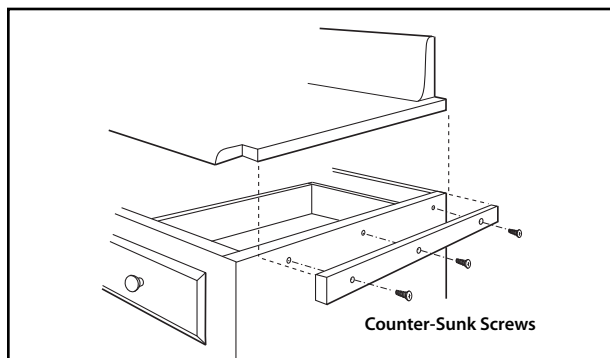
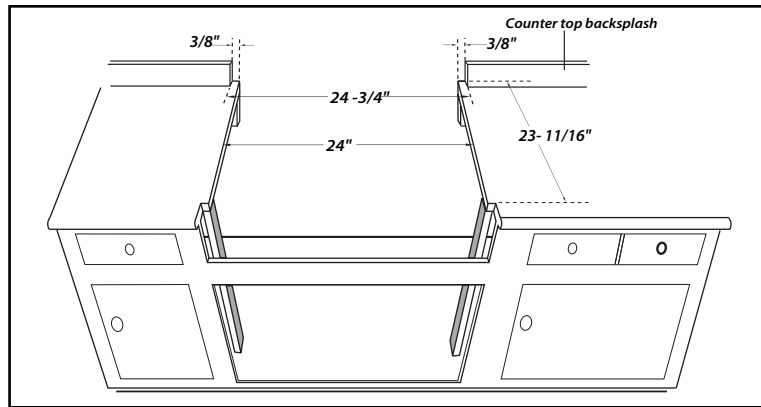
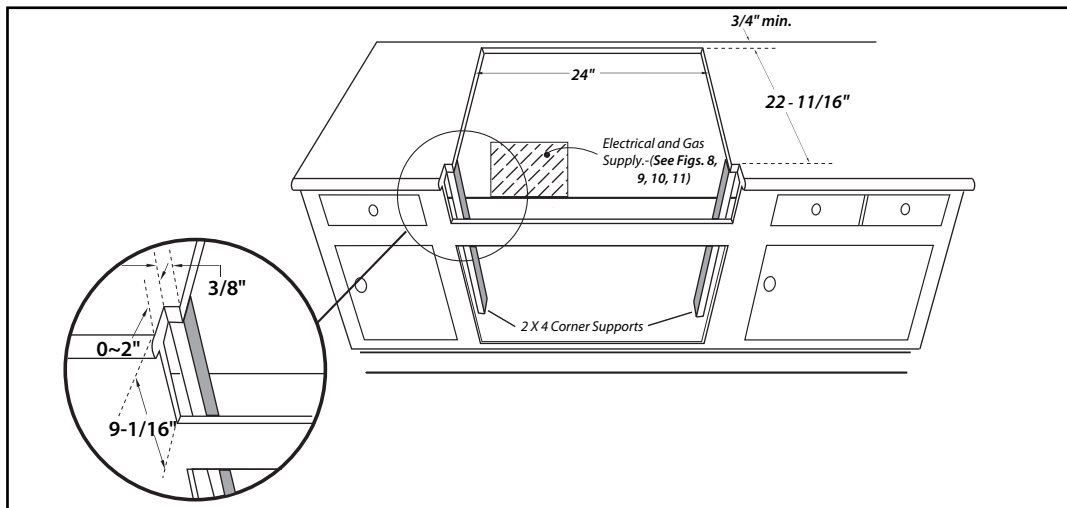

Fig. 3
Fig. 4
Fig. 5
3. The wok cooktop is designed to hang from the countertop by its side flanges. The countertop however, must be strong enough to support this heavy wok cooktop. It may be necessary to add a 2 x 4 corner brace (See Fig. 5) or supporting cleats along each side (See Fig. 3). Another alternate would be to construct a deck to set the wok cooktop on (See Fig. 4, 5, 6).
- Standard wok cooktop installations (See Fig.4).
- Deep counter or island installations (See Fig.5).